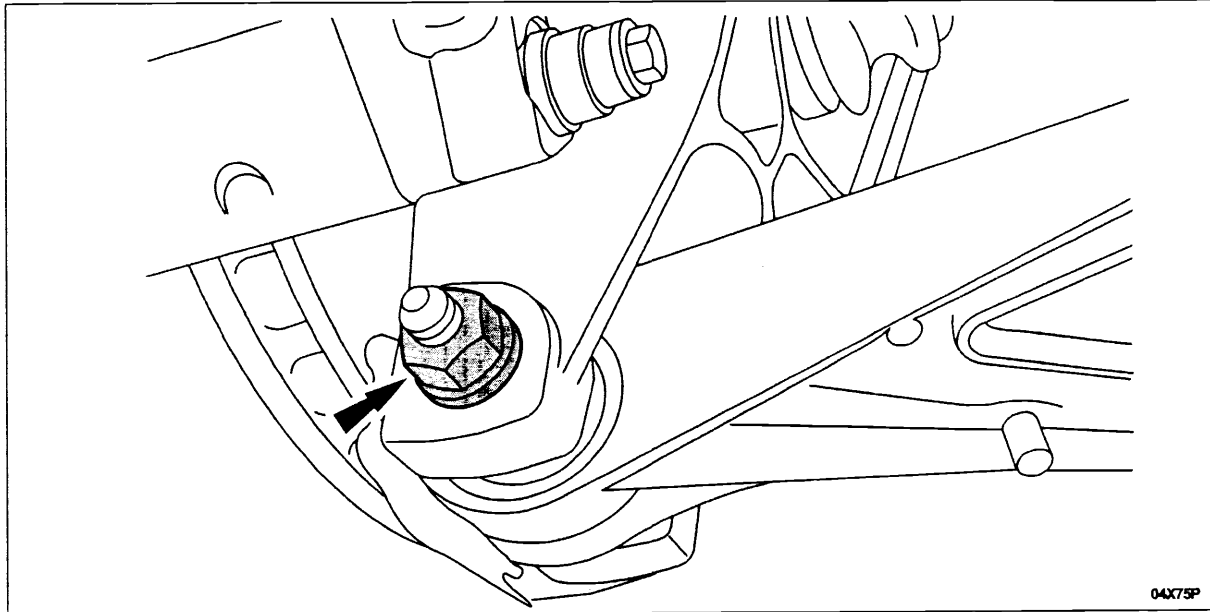

FIGURE 16
12. Remove the lower control arm-to-knuckle nut and bolt. Discard the nut only. See Figure 16.